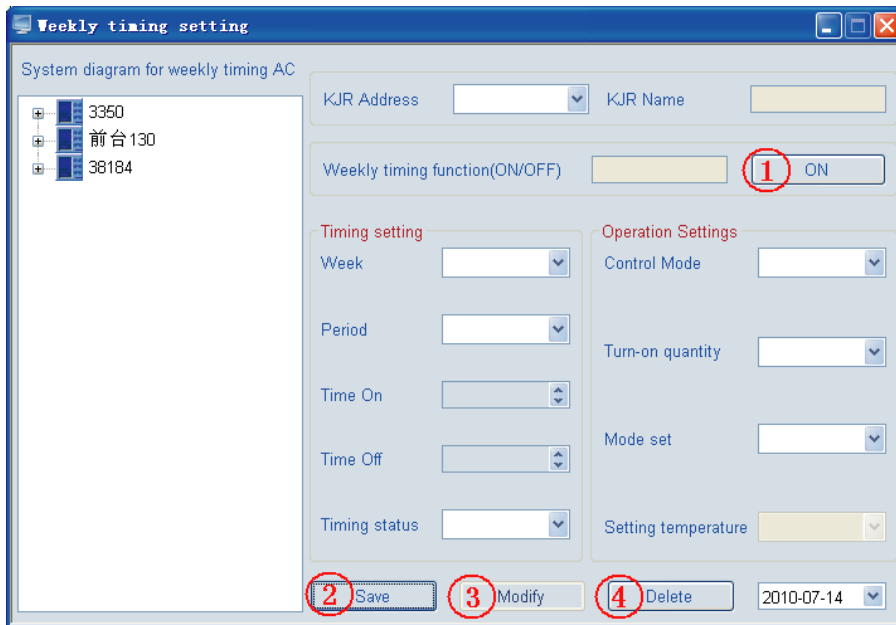
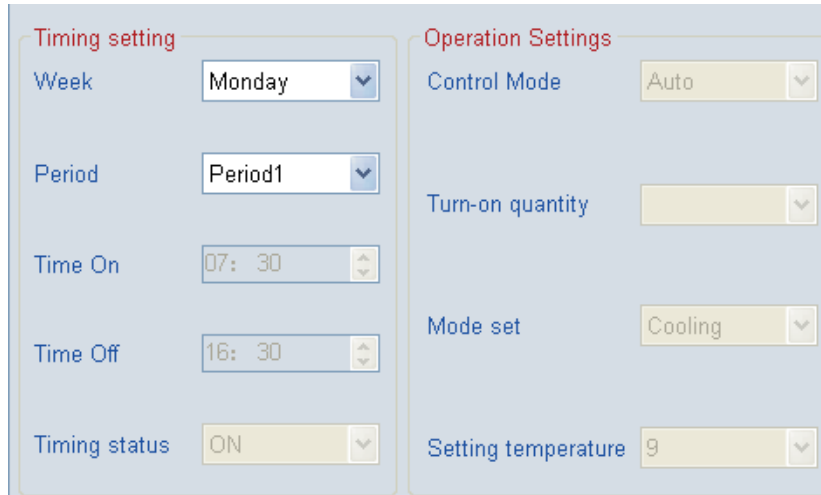

Fig.4-29
Fig.4-33
①Click “Weekly timing set” a window as Fig. 4-29 would pop up——finish the weekly schedule management setting, each wired controller represents a refrigeration system; and the existing wired controller is a wired controller has already been configured in the system.
- Save (See the ② key in the Fig.4-29) — — Save the current settings or the modified settings.
f. Modify(See the ③ key in the Fig.4-29) — Press this key the parameter of selected period become changeable, and then click “Save” . Press the key again, all parameters in this period become unchangeable. See Fig. 4-33.